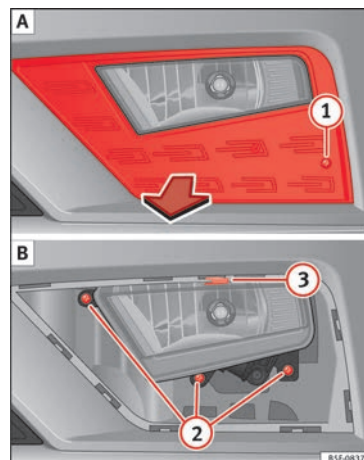
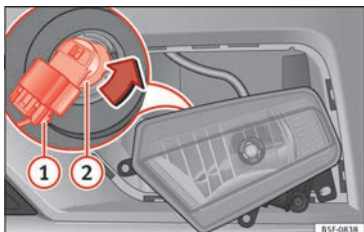

Fig. 110 Fog light: extracting the grille.
Fig. 111 Fog light: remove the bulb holder
1. Remove the screw » **Fig. 110** ① **A** from the fog light grille using a screwdriver and extract the grille.
2. Remove the 3 screws » **Fig. 110** ② **B**.
3. Remove the metal clip situated on the upper part of the fog light by pulling away from the vehicle ③ **B** and extract the fog light.
4. Remove the connector » **Fig. 111** ① from the bulb.
5. Turn the bulb holder ② anti-clockwise and pull.